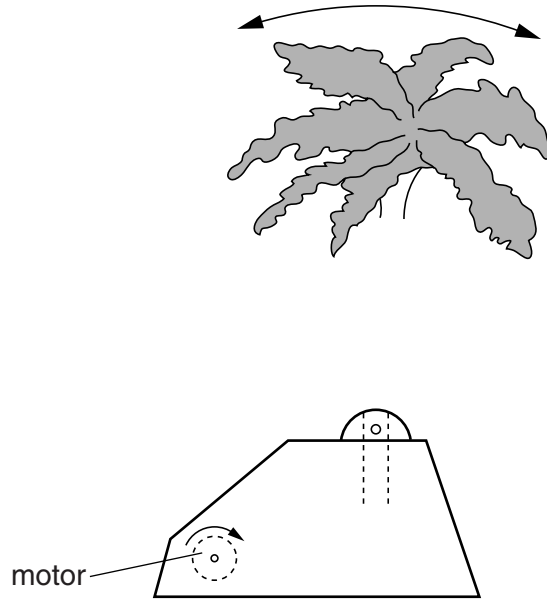

Fig. 6
- 4 Fig.6 shows part of a window display for use by a travel agent. The palm tree moves as shown by the arrows.